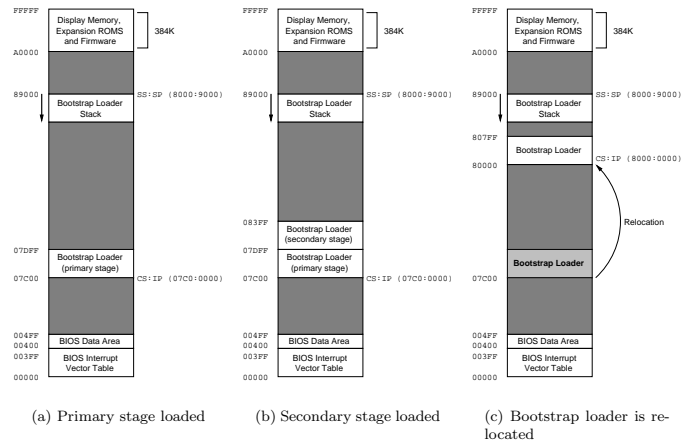

Figure 1: Memory layout during the primary stage of the bootstrap loader.
**Lines 40..44** The JMP instruction that transferred control to the loader only initialized the code segment selector (CS) and instruction pointer IP. The location and size of the stack is unknown and the remaining segment selectors (DS, ES, SS) also contain unknown values. The segment selectors are now initialized and a temporary stack is created at address 8000:9000 (physical address 89000) as illustrated in Figure 1(a).
**Lines 79..106** The loader now uses the BIOS disk services (software interrupt 13h) to load its remaining portions into memory. The loader will assume that it is booting from a 1.44Mb removable diskette and will attempt the load operation three times when encountering problems before displaying an error message and aborting the load operation. The secondary stage is placed directly after the primary stage to form a contiguous block as illustrated in Figure 1(b).
**Lines 113..119** The loader is now relocated to physical address 80000h to create gap in memory large enough to hold the kernel or runtime environment and is illustrated in Figure 1(c). Finally, control is transferred to the secondary stage by executing a JMP instruction to address 8000h:0000h.